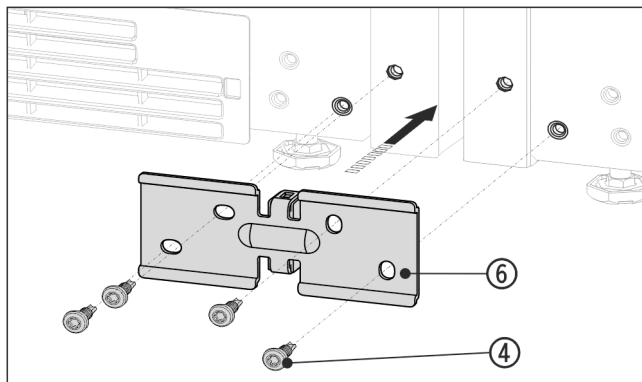

Fig. 13 Example illustration
- Slide the bracket Fig. 13 (6) with the spacer between the appliances and loosely screw on with 4 screws Fig. 13 (4).